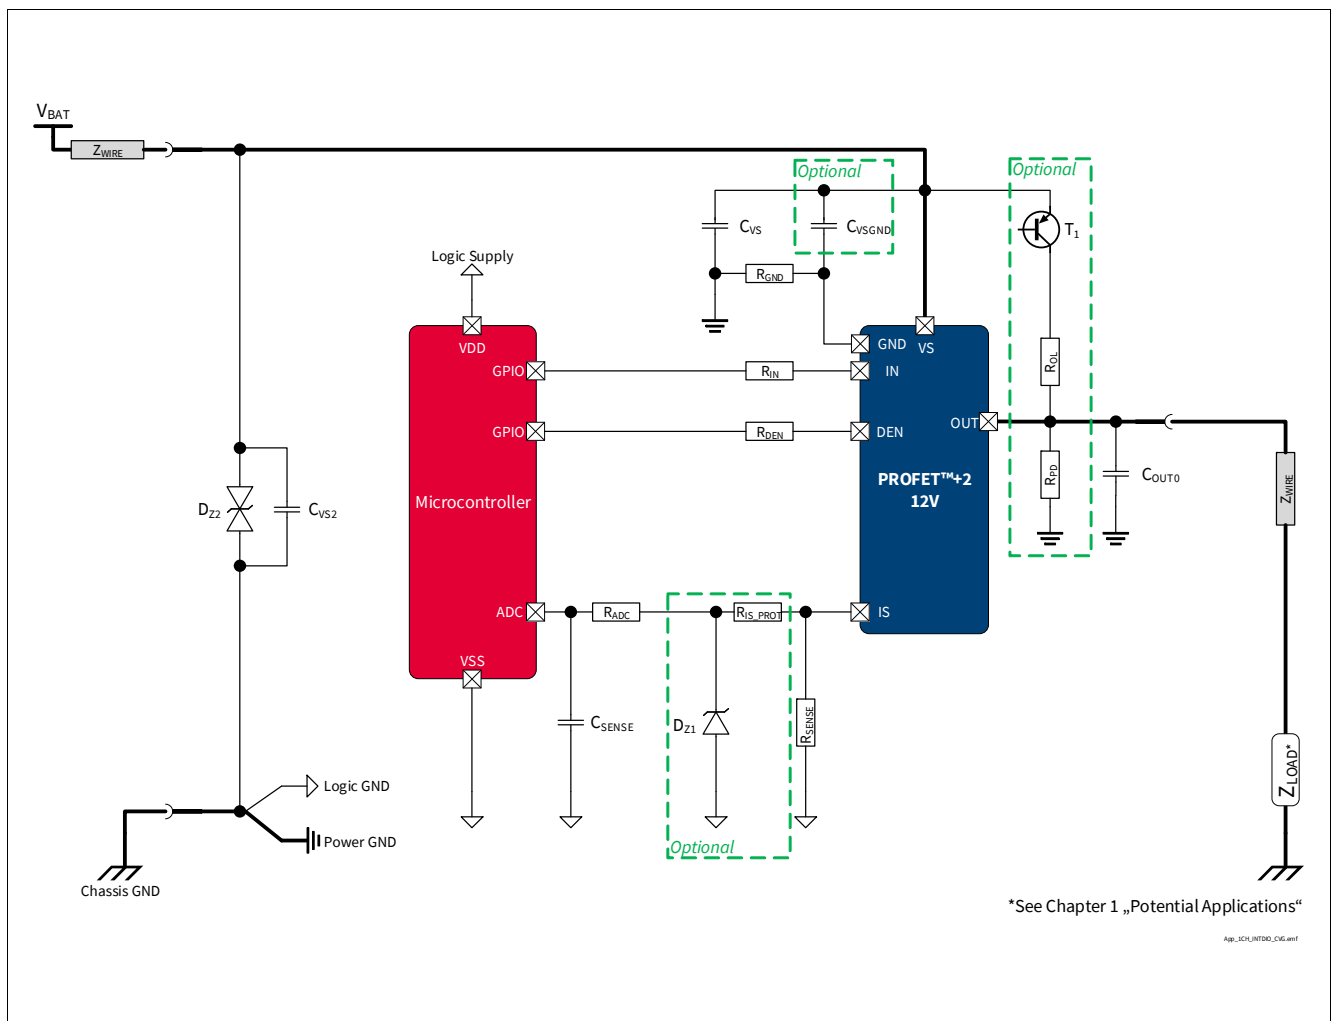

Figure 37 BTS7002-1EPP Application Diagram
1.04, 2019-10-15	<p>P_6.5.20.1 updated (Typ.: 0.01 μA \rightarrow 0.1 μA) P_8.7.10.1, P_8.7.10.7, P_8.7.10.8 updated (added in Note or Test Condition: link to Figure 24) P_7.5.10.5 updated (added in Note or Test Condition: see Figure 18) P_7.5.10.12 updated (added in Note or Test Condition: see Figure 20; deleted unnecessary space in Symbol: $dV_{OUT} / dt \rightarrow dV_{OUT} / dt$) P_8.7.10.6 updated (added in Note or Test Condition: see Figure 25) P_9.7.10.1 updated (added in Note or Test Condition: see Figure 32) Figure 1, Figure 37 updated P_4.3.0.7 added Table 22 updated Chapter 5.1 updated (added: see Chapter 10 for the complete application setup overview) Chapter 9.2 updated ($2\text{ V} \rightarrow V_{DS(OFF)}$) General: updated (ReverSave™ \rightarrow ReverseON)</p>
1.01, 2018-06-14	<p>Page numbering corrected Figure Application Diagram, Figure 29, Figure 37 updated</p>